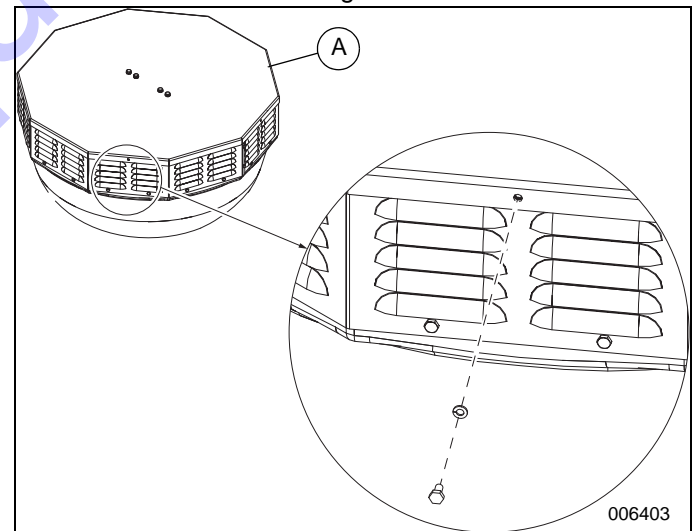

Figure 7. Hardware Removal—Side of Lid
2. See Figure 7. Obtain light fixture (A). Remove and retain hardware securing sides of lid.
- See **Figure 7**. Install hardware retained in step 2. Tighten to 75 in-lb (8.5 Nm).
2. See Figure 7. On the light fixture, remove and retain hardware securing sides of lid.
- See Figure 7. Install hardware retained in step 2. Tighten to 75 in-lb (8.5 Nm).